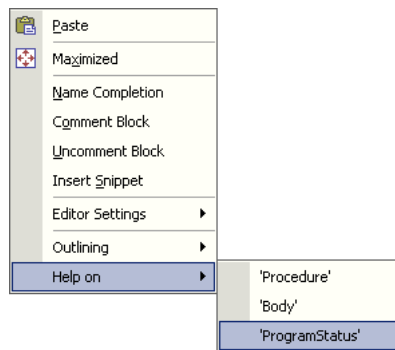

Figure 5.2: A right-mouse popup menu
- ▶ right-click the mouse and select the 'ProgramStatus' entry in the 'Help' submenu (see Figure 5.2).